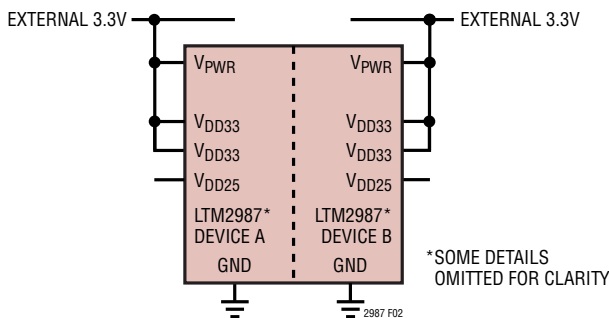

Figure 2. Powering LTM2987 from External 3.3V Supply
Alternatively, power from an external 3.3V supply may be applied directly to the VDD33 pins using a voltage between 3.13V and 3.47V. Tie VPWR to the VDD33 pins. See Figure 2. In this case, VDD33(A) and VDD33(B) may be tied together. All functionality is available when using this alternate power method. The higher voltages needed for the VOUT\_EN[0:3] pins and bias for the VSENSE pins are charge pumped from VDD33.